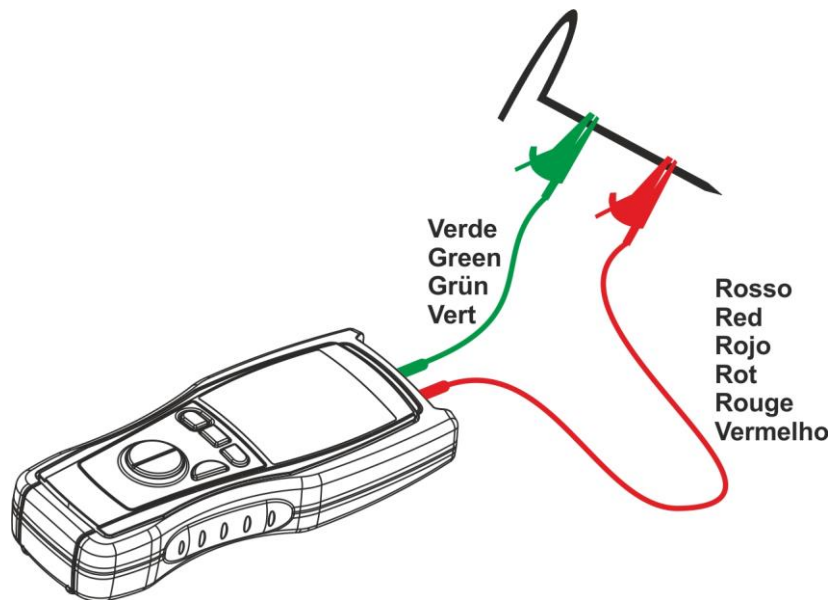

Fig. 2: Instrument's wiring for zero setting of cables under mode EARTH-2W
5. Short-circuit the measuring cables' ends (see Fig. 2) paying attention that the crocodiles' metal parts make proper contact to each other. To get a safe connection one of the rods provided with the instrument can be used..